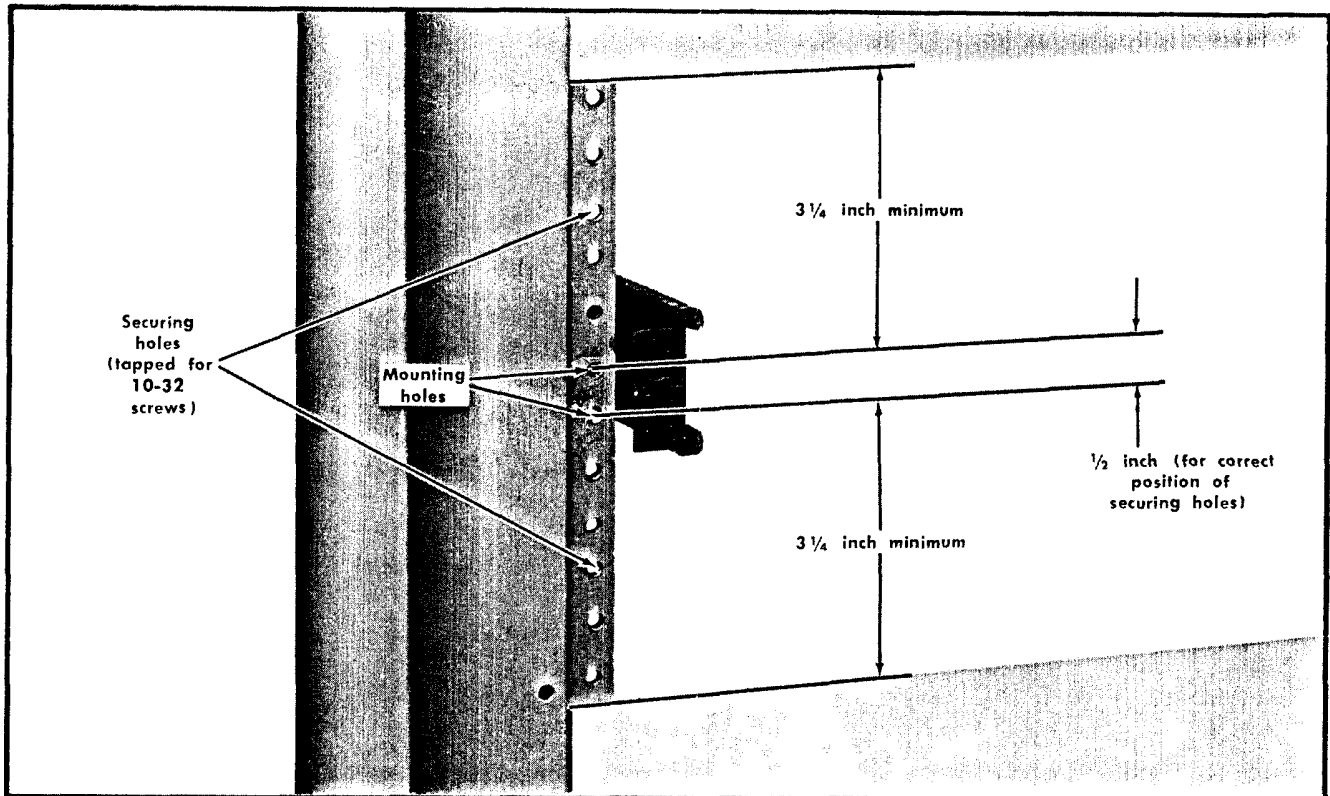

Fig. 10-7. Locating the mounting holes for the left stationary section. Same dimensions apply to right stationary section.
1. Select the proper front-rail mounting holes for the stationary sections using the measurements shown in Fig. 10-7.